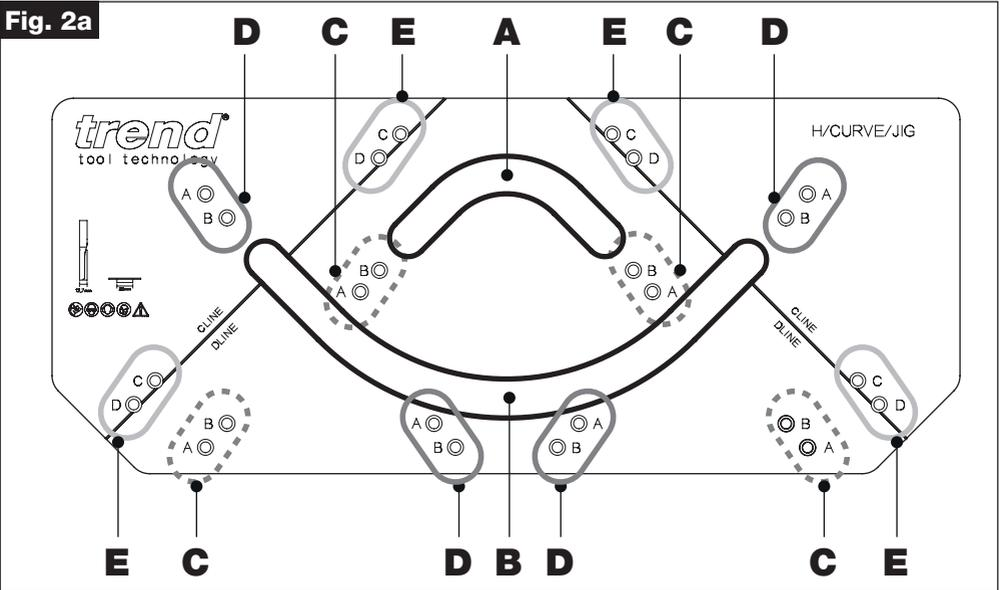

Fig. 2b
C. Post Convex Pin Positions (Fig. 2b)
D. Door Convex Pin Positions (Fig. 2b)